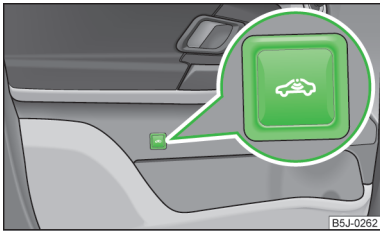

Fig. 35
- > Press the  » Fig. 35 button in the driver's door.